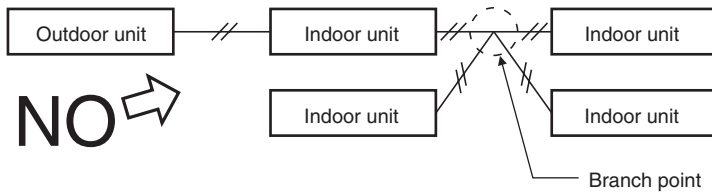

Fig. 4-4
- (3) Do not install inter-unit control wiring such as star branch wiring. Star branch wiring causes misaddress setting. (Fig. 4-4)